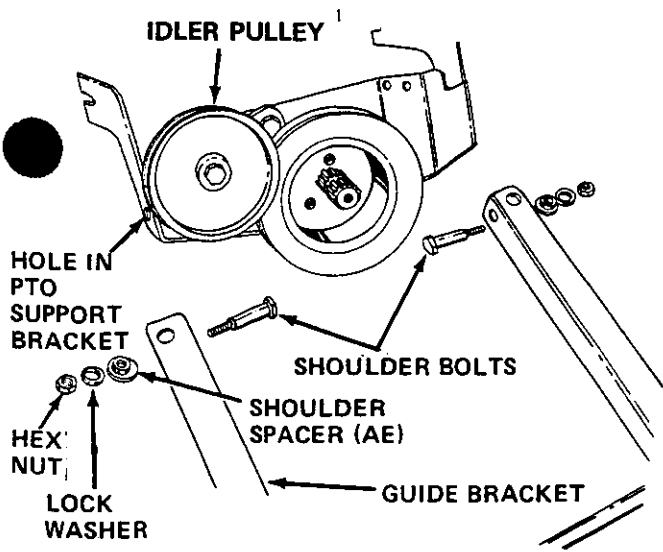

FIGURE 2
2. **Model 680, IH-1282, 1210, 882, IH-782D, and 1512 tractors only:** Disassemble the idler pulley shown in figure 2. Turn the pulley around so the hub side is toward the front, and reassemble to the PTO support bracket. Refer to illustration on page 16.
3. Remove the shoulder bolt, lock washer and hex nut from each side of the PTO support bracket. Place the guide bracket in position as shown in figure 2.